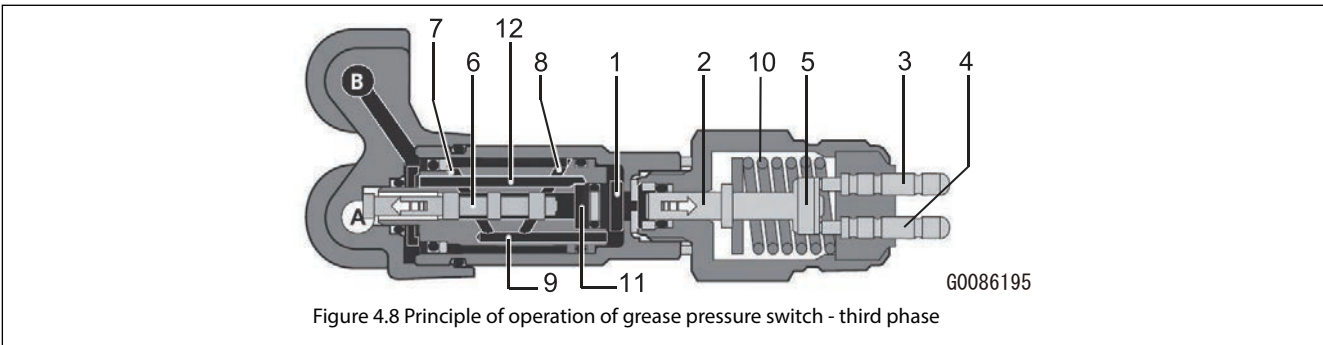

Figure 4.8 Principle of operation of grease pressure switch - third phase
During pumping phase B grease is pressed into channel B (see figure 4.8). While the grease pressure is built up, chamber (11) fills with grease (through channel 12). The grease pressure pushes piston (6) to the left. Because of that the channel (8) is opened, causing the grease to flow to chamber (1) through channel (7) and channel (9).